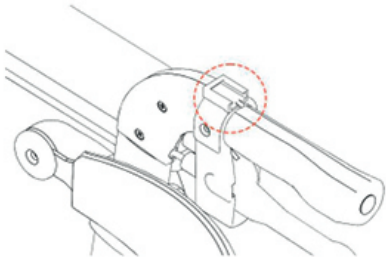

FIGURE 21
1. Install the rear controller on the right handlebar. (Figure 21)